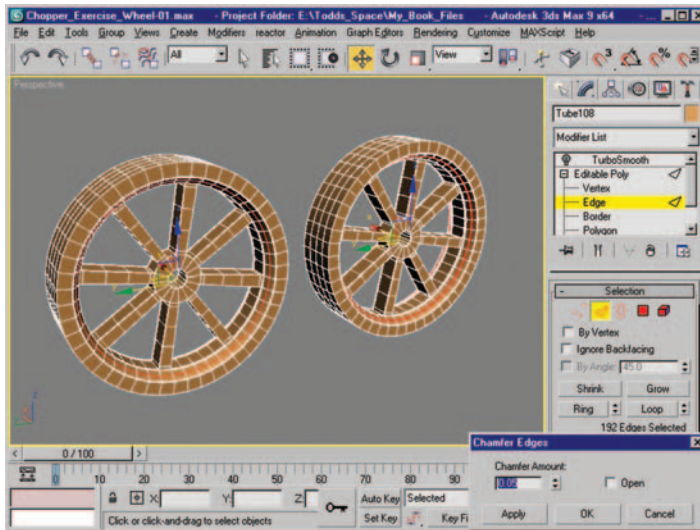

Figure 8.109 Edge selection before and after using Chamfer to create two additional edge loops.
20. Select the two new edge loops that were just created (Figure 8.109, left), and using the Chamfer settings dialog box with a Chamfer Amount of 0.05, create new additional edge loops that flow right alongside the original selection (Figure 8.109, right).